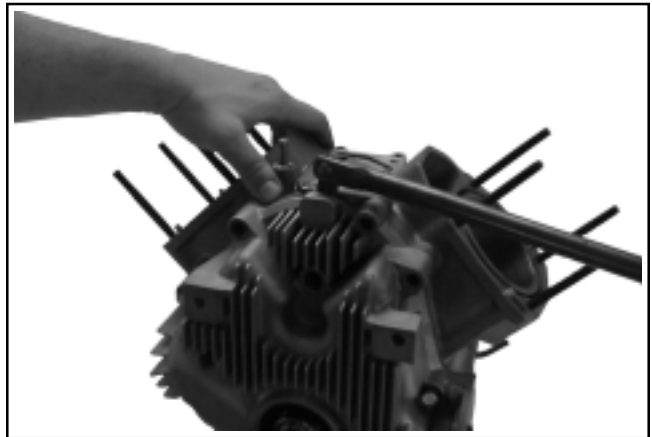

Figure 9-73. Splitting Oil Pan from Crankcase.
2. Locate the splitting tab cast into the perimeter of the oil pan. Insert the drive end of a breaker bar between the splitting tab and the crankcase, and turn it to break the RTV seal. See Figure 9-73. Do not pry on the sealing surfaces as this can cause leaks.